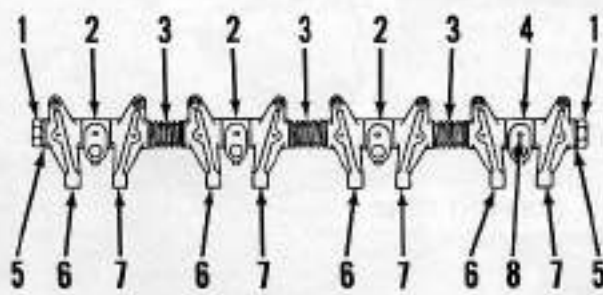

Fig. 54—View showing four cylinder engine rocker arm assembly. Three and six cylinder assemblies are basically arranged the same.
With rocker arm assembly removed, remove plug (1—Fig. 54) from end of shaft. Remove end locating spring (5), right-hand rocker arm (7), locating screw (8) and rear shaft support. Remove remaining rocker arms, locating springs and shaft supports and place them in order on a clean bench.
Install shaft in rear shaft support (4—Fig. 54) with oiling holes down and secure shaft with locating screw (8). Peen bracket around screw to lock screw in position and complete assembly. Right-hand (7) and left-hand (6) rocker arms are installed in pairs at each shaft support with offset ends towards each other as shown in Fig. 54.